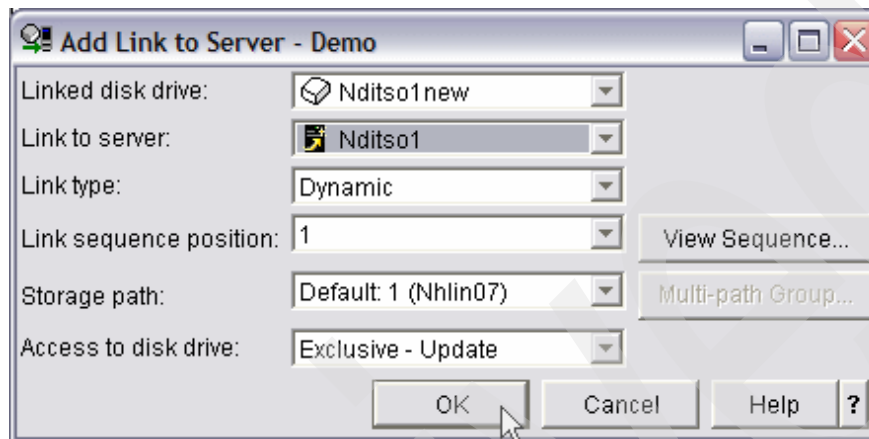

Figure 6-97 Add link new system drive
- c. Right-click the **“New” expanded** system drive and select **Add Link**, the Add Link to Server window opens (Figure 6-97). Using the pull-down list, select the following and click **OK**: